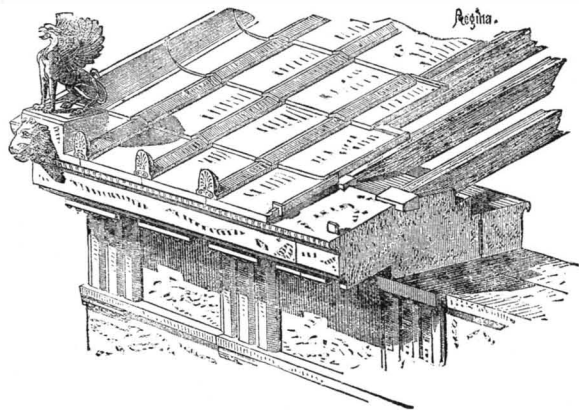

Fig. 5.
A. The gable or pediment roof, always used for temples, and composed of two plane surfaces. This was constructed of wooden rafters, spaced to support the edges of tiles of terra cotta or, rarely, of marble. No trusses were used. The tiles were of several kinds, but generally consisted of broad tiles with their edges turned up, which were covered by overlapping narrow tiles. Ornamental palm leaf forms, called antefixæ, were added to these covering tiles at the eaves and the ridge of the roof. There was no gutter to receive the water, which dripped from the edge of the roof (Fig. 5).